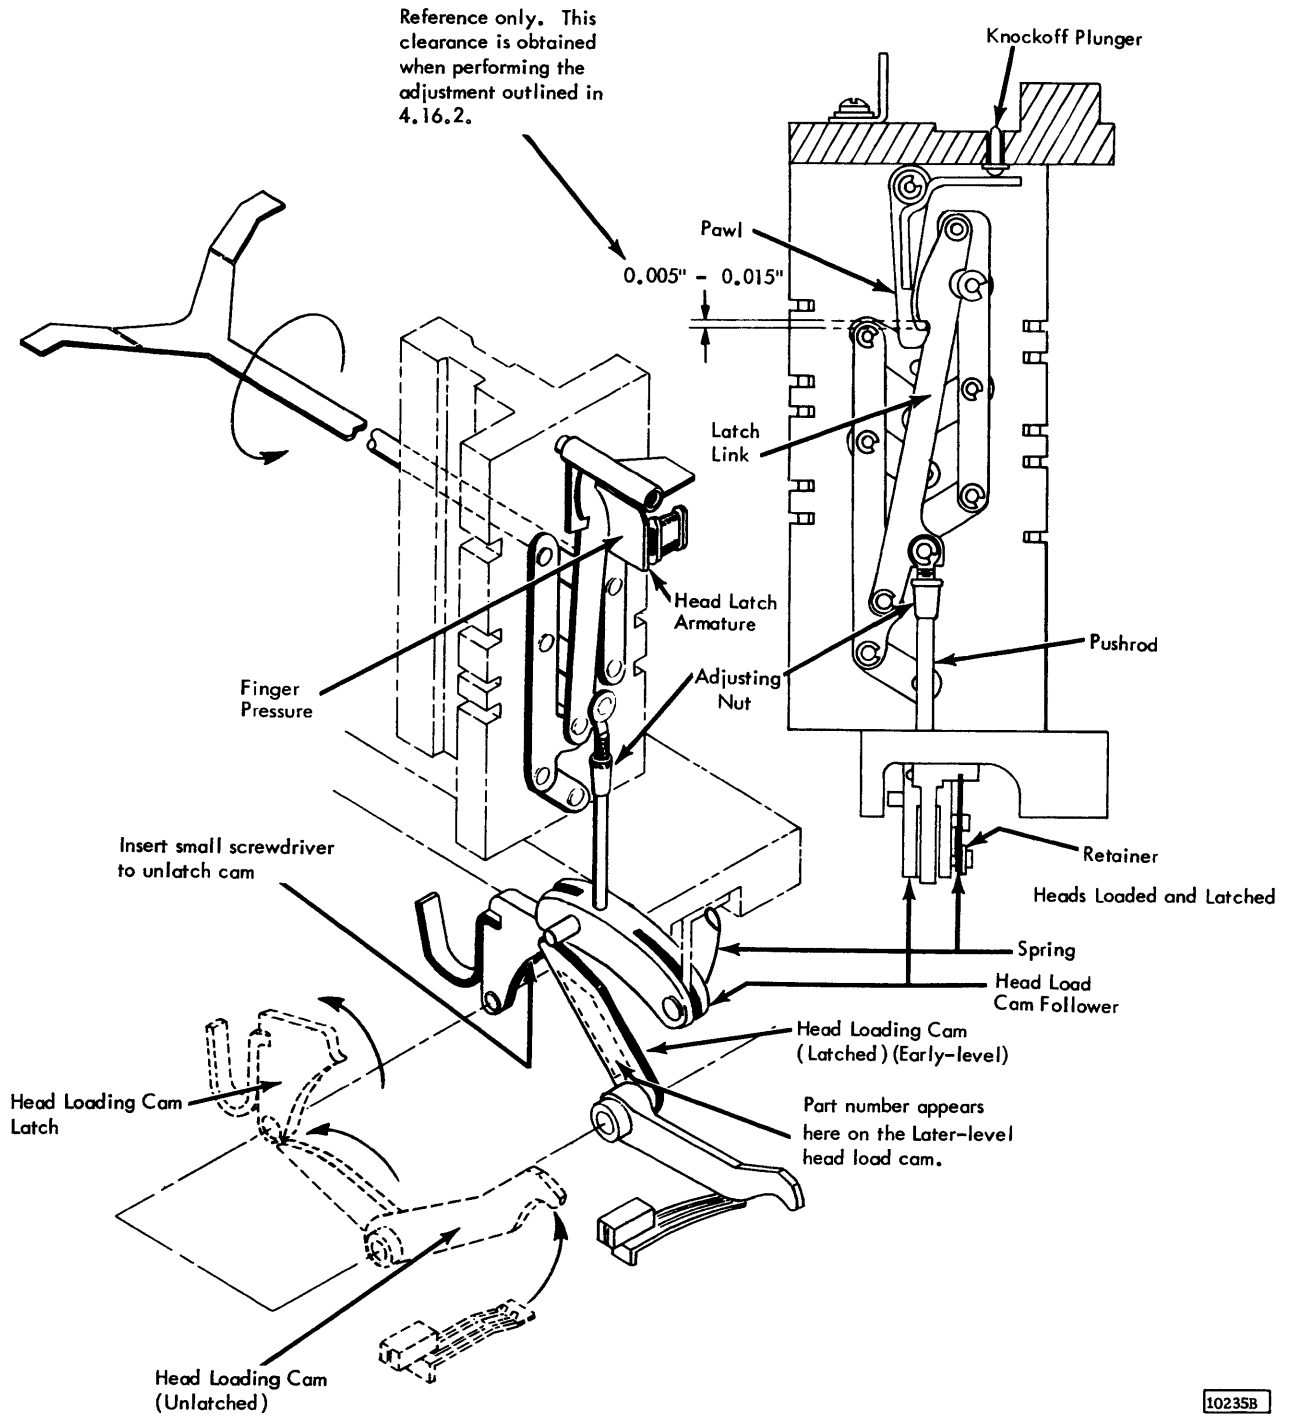

Figure 4-13. Carriage Manual Accessing
To prevent head load during manual accessing operations, unlatch the head loading cam. Use a small screwdriver to reach in through the hole in the lower pressure rail assembly to unlatch the cam (Figure 4-13). A click will be heard when the cam unlatches, and the back end of the cam will rise away from the heads extended switch.
If necessary because of the lack of a particular part, the machine may be converted from one group to the other group by exchanging all three parts. However, it is sometimes difficult to get the spring (P/N 2154212) and retainer ring (P/N 1073418) installed on the back side of the cam follower. This fact should be taken into consideration before deciding to convert (Figure 4-13). FBM 2166076 is available to convert the machine from the early-level group to the later-level group (head load cam, follower, and push rod).
4. With the head load cam latched as shown in Figure 4-13, apply finger pressure to the head latch armature and slowly move the carriage forward from cylinder 000. When the pawl drops into the latch, it will be felt by the finger that is applying pressure to the head latch armature. This drop must occur between cylinder positions 173 and 177. Adjust the head load push rod up or down, as required to have the pawl drop into the latch between cylinder positions 173 and 177.
4. With the head load cam latched as shown in Figure 4-13, apply finger pressure to the head latch armature and slowly move the carriage forward (toward the spindle) from cylinder 000. When the pawl drops into the latch, it will be felt by the finger that is applying pressure to the head latch armature. This drop must occur between cylinder positions 140 and 145. Adjust the head load push rod up or down, as required to have the pawl drop into the latch between cylinder positions 140 and 145.